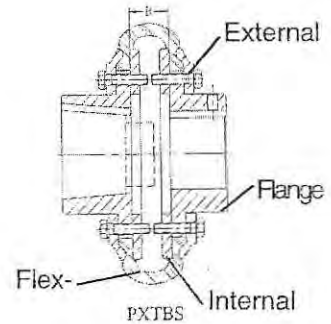

Figure 2
4. Referring to Figure 2 and Table 1, observe the "B" dimension for the coupling size being installed. Mount and position the flanges on the shafts so that dimension "B" is achieved when the shafts are in their final position. For the TAPER-LOCK flange, secure the flange assembly to the shaft per Steps 4 and 5 in the bushing instructions. For the clearance fit straight bore (FBS and BS) flange, tighten the set screws